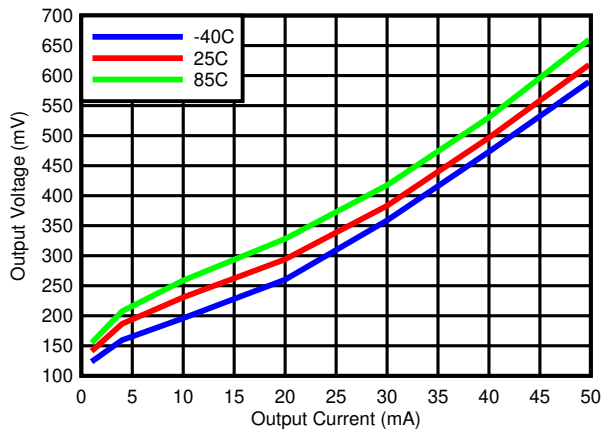
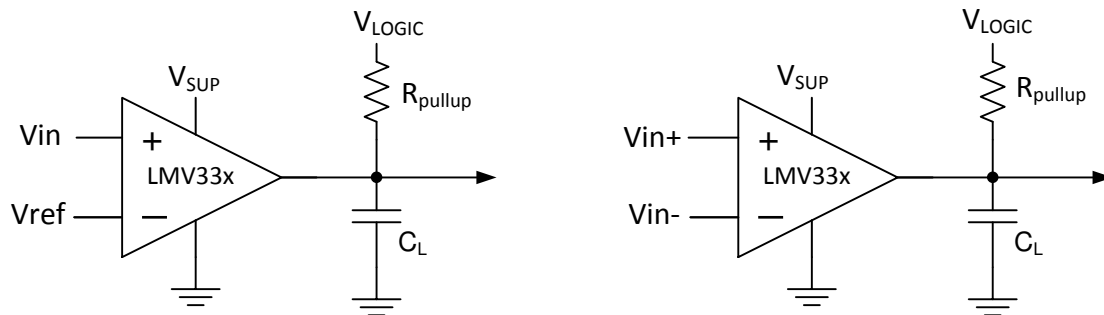

图 6-3. Output Voltage vs Output Current
图 8-1. Typical Application Schematic
The output consists of an open drain NPN (pull-down or low side) transistor. The output NPN will sink current when the positive input voltage is higher than the negative input voltage and the offset voltage. The V_{OL} is resistive and will scale with the output current. Please see Figure 6-3 for V_{OL} values with respect to the output current.
Output current is determined by the pull-up resistance (R_{pullup}) and V_{logic} voltage, refer to 图 8-1. The output current will produce a output low voltage (V_{OL}) from the comparator. In which V_{OL} is proportional to the output current. Use 图 6-3 to determine V_{OL} based on the output current.
- R_{CE} can be determine by taking the slope of 图 6-3 in it's linear region at the desired temperature, or by dividing the V_{OL} by I_{out}